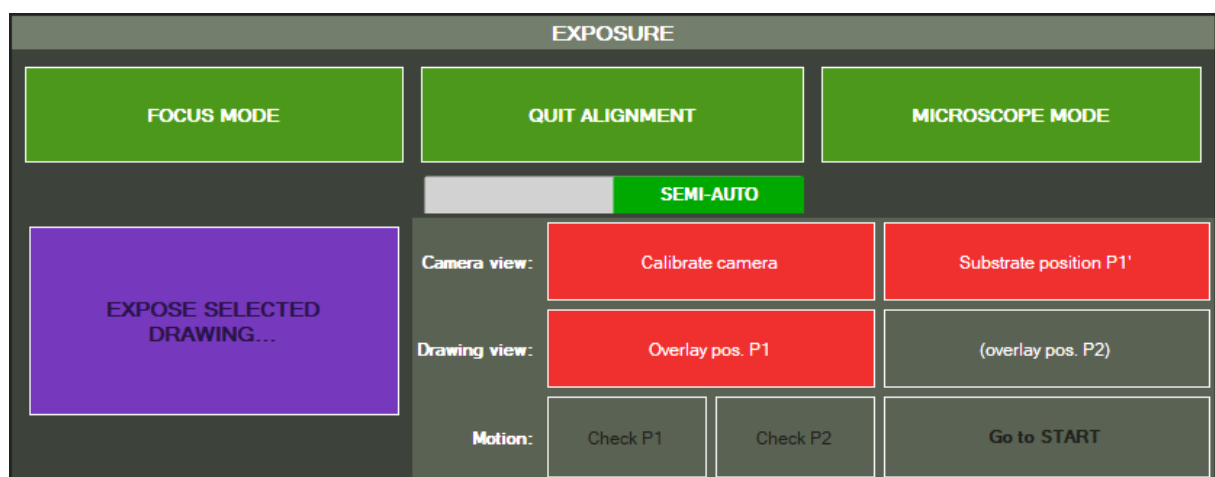

Figure 57 - Semi-automatic alignment mode
- On the **EXPOSURE** panel, click on the **ALIGNMENT MODE** and set the **toggle switch** below to **SEMI-AUTO** (Figure 57).